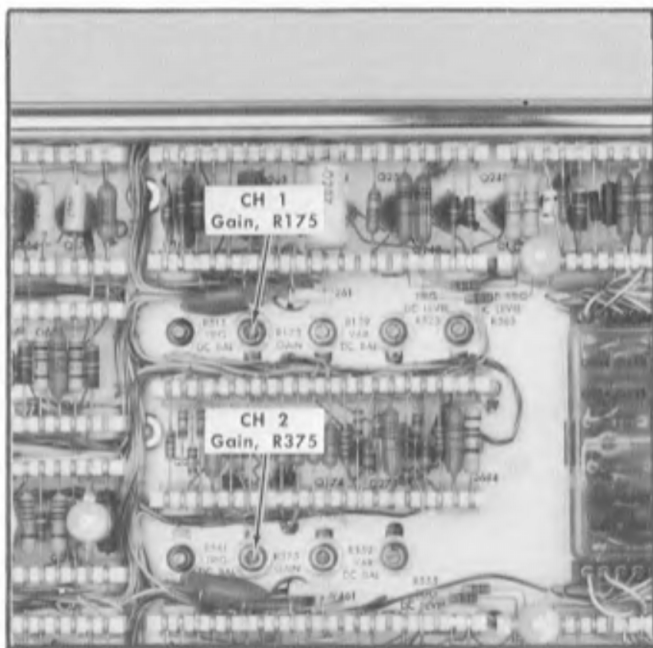

Fig. 6-5. Location of CH 1 Gain, R175, CH 2 Gain, R375.
f. ADJUST—CH 1 Gain Control, R175, (see Fig. 6-5) for a channel 1 display amplitude of exactly 5 major divisions.
i. ADJUST—CH 2 Gain control R375, (see Fig. 6-5) for a channel 2 display amplitude of exactly 5 major divisions.